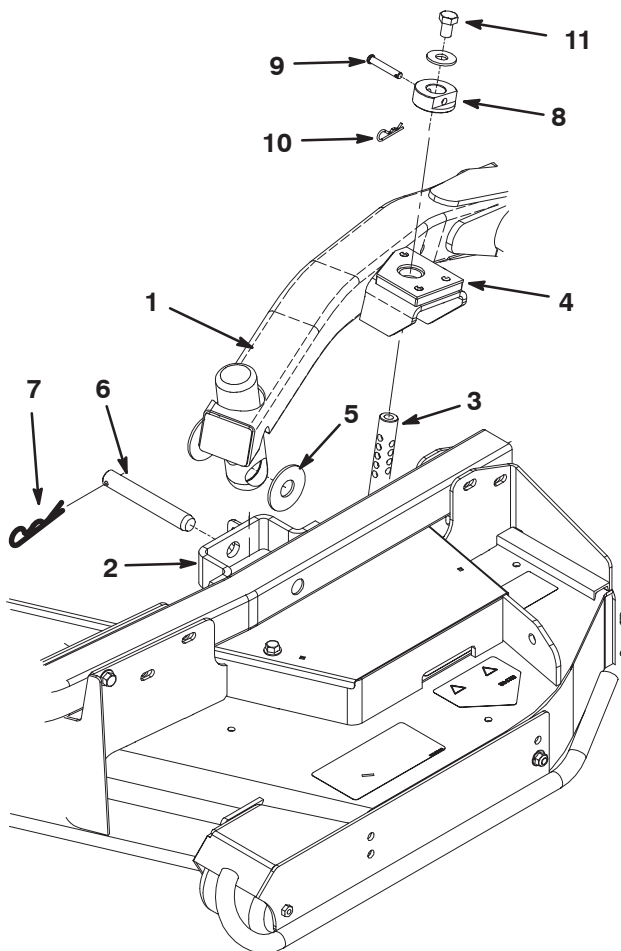

Figure 3
2. Move the lift lever to the Float position. Push a lift arm down until the holes in the lift arm line up with the holes in the castor arm bracket and the height of cut rod can be inserted into the lift arm pads (Fig. 3).
3. Secure the lift arm to the castor arm with (2) thrust washers, a clevis pin and a hair pin cotter. Position the thrust washers between the lift arm and the castor arm bracket (Fig. 3). Insert end of cotter pin into the slot in the castor arm tab to retain cotter pin.
7. Install the height of cut collars onto the height of cut rods and secure with the clevis pins and hair pin cottes (Fig. 3). Position the head of the clevis pin toward the front of the deck, if possible.
8. Install a 1/2 x 3/4" capscrew and a washer to top of each height of cut rod (Fig. 3).